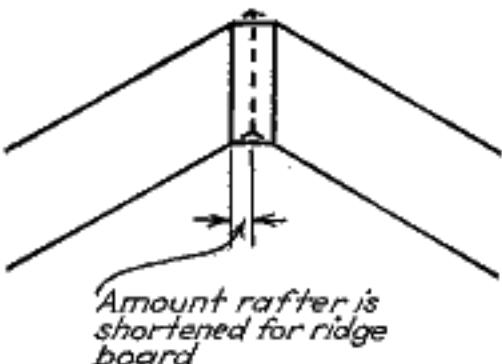

FIG. 104.—If a ridge board is used, shorten each rafter one-half the thickness of the ridge board, measuring back *perpendicular to the plumb cut*.
**128. Shortening for the Ridge Board.** If a ridge board is used, the rafter will have to be shortened by an amount equal to half the thickness of the ridge board, this amount to be measured back from the end of the rafter *perpendicular to the plumb cut*, and not parallel to the edges of the rafter (see Fig. 104).